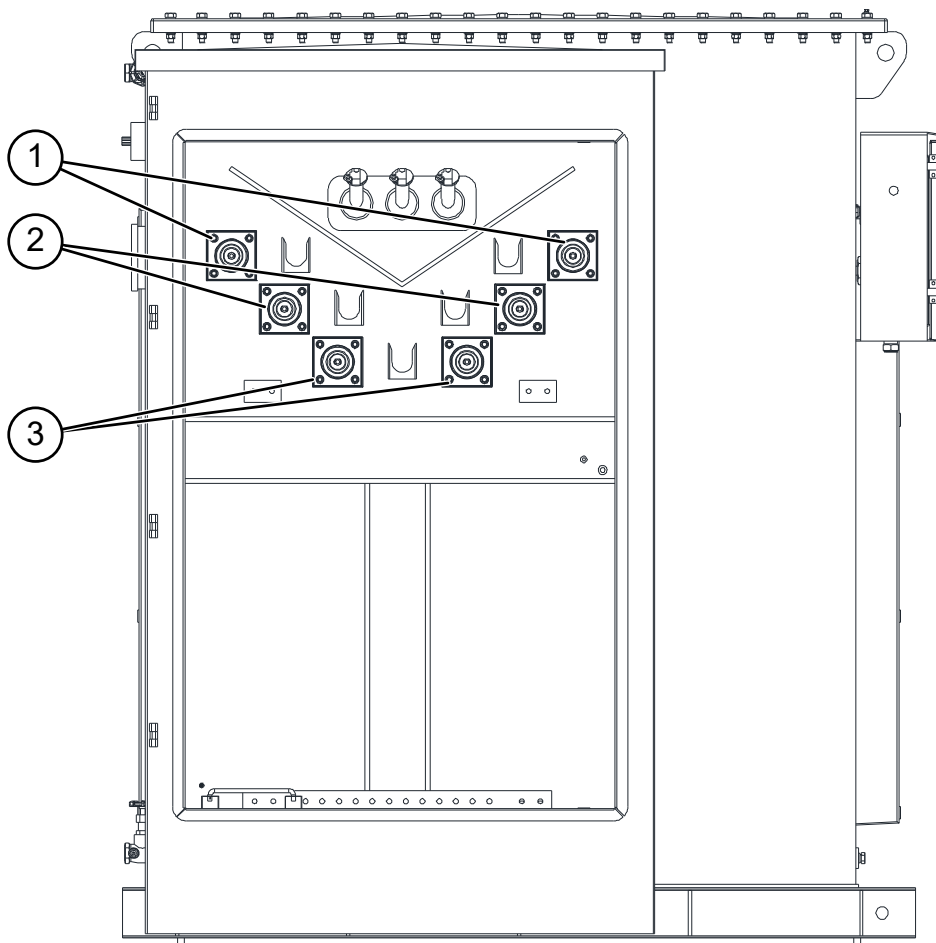

Fig. 3-11 AC Wiring Connection
1. The cross-sectional area of each AC input phase of the booster is a maximum of 240mm²(or 600 kcmil). The high-voltage cable connection position is shown in Figure 3-11.
2. Connect L1 output terminal connection (1), L2 output terminal (2), and L3 output terminal (3) according to the following figure.